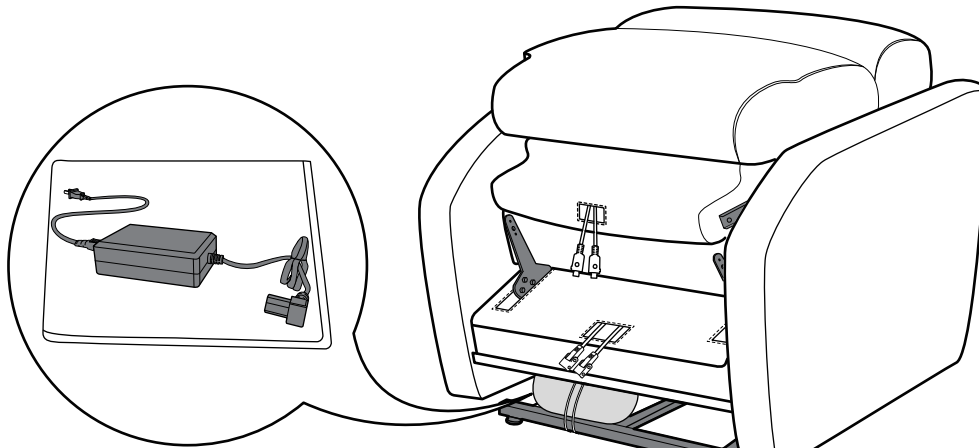

Figure 1.1
- 1** Remove the zip tie holding the foam bag with the Power Transformer, its cord and the remote on the left. (See Figure 1.1)